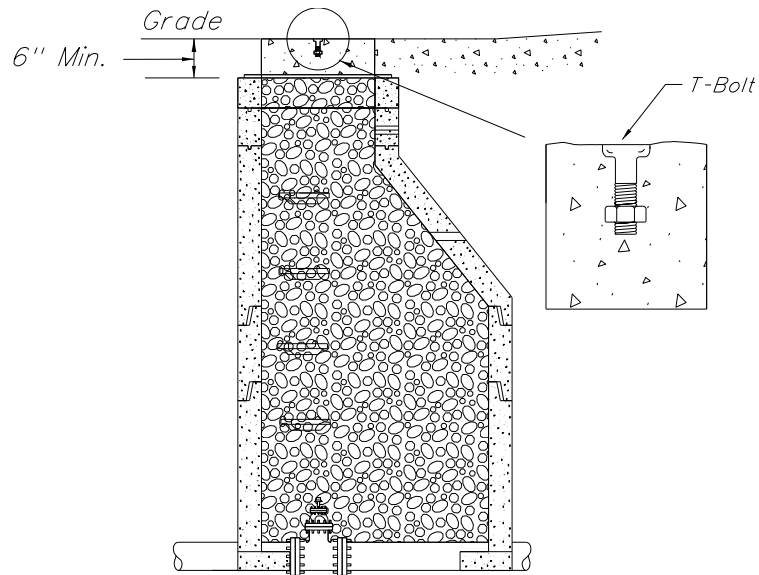

Fig. 3
- Insert a T-Bolt and nut into the concrete with the head of the T-Bolt flush with top of the concrete. The T-Bolt will denote the valve box has been intentionally abandoned by the District and not inadvertently filled with concrete by others. See Fig. 3.